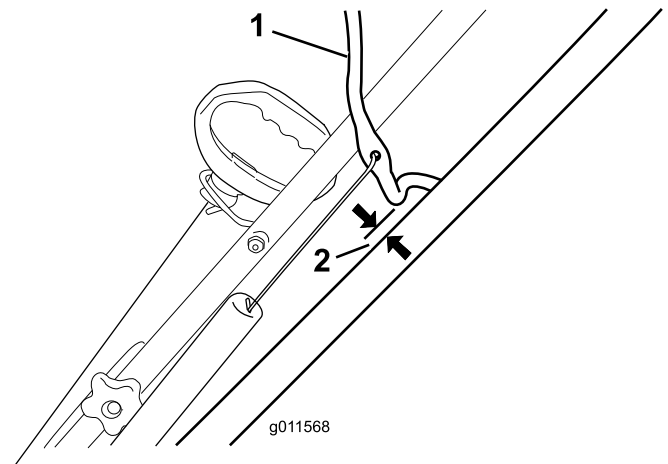

Figure 8
Move the control bar back toward the handle to remove the slack in the control cable (Figure 8).
**Note:** Ensure that a gap of 2 to 3 mm (1/16 to 1/8 inch) exists between the control bar and the handle (Figure 8).